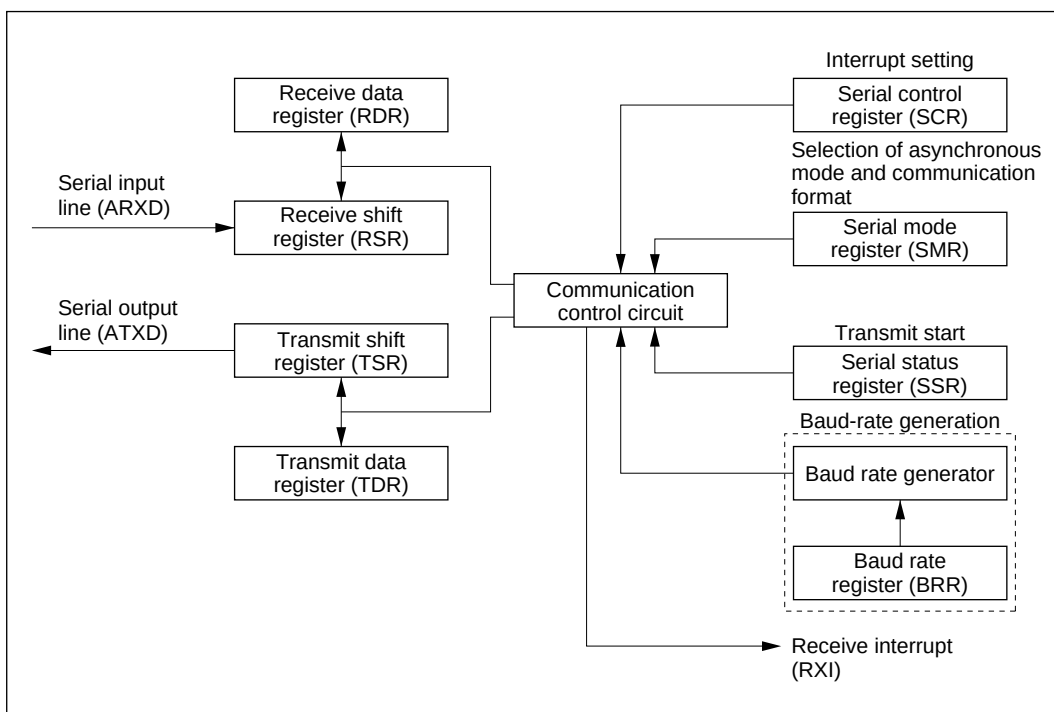

Figure 2 SCI Block Diagram
1. Figure 2 shows a block diagram of the SCI used by this sample task. The SCI has the following features:
This task uses these features for console interfacing as shown in figure 2.